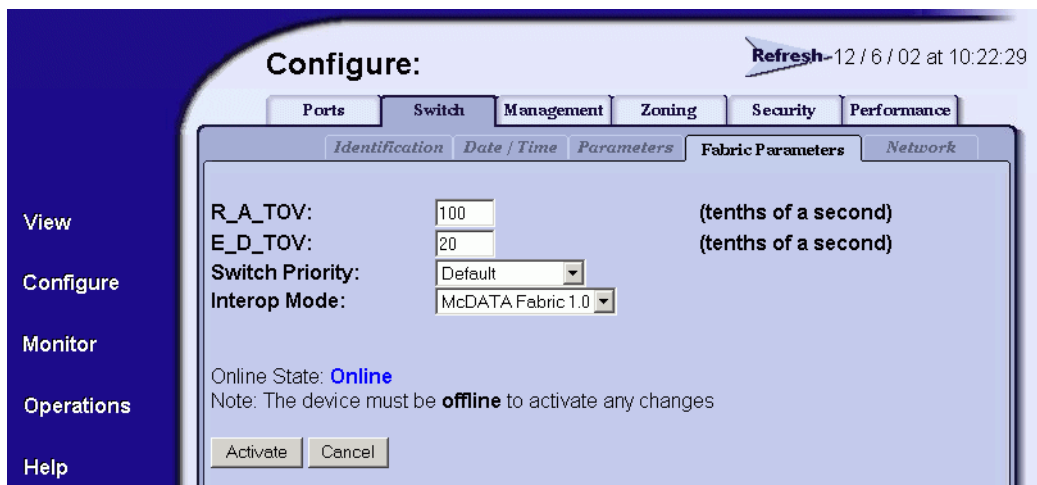

Figure 2-12 Configure Panel (Switch Page with Fabric Parameters Tab)
3. At the *Configure* panel, click the *Switch* tab, then click the *Fabric Parameters* tab. The *Switch* page displays with the *Fabric Parameters* tab selected (Figure 2-12).